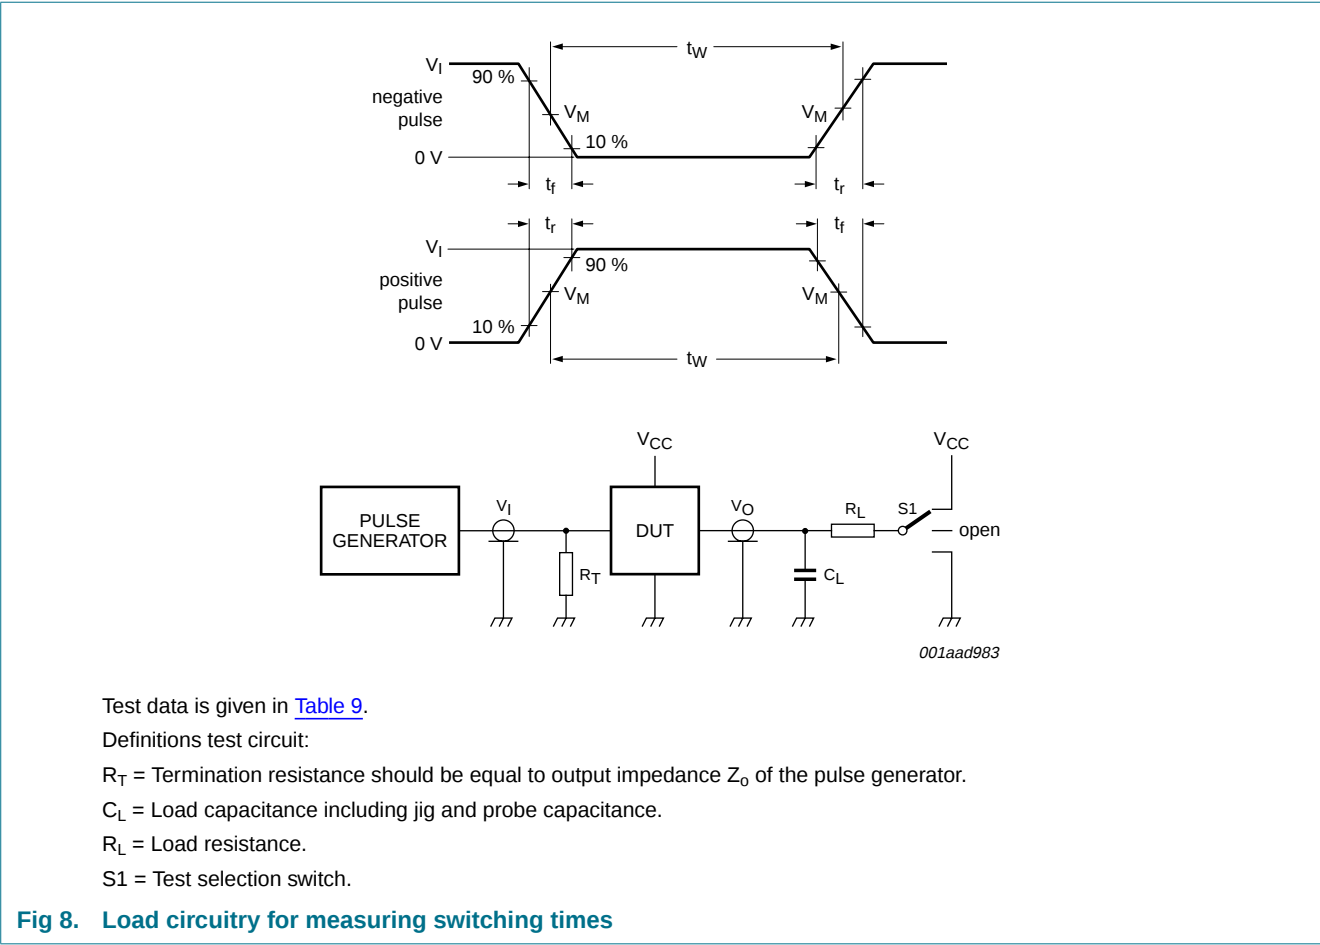

Fig 8. Load circuitry for measuring switching times
*GND = 0 V; for load circuit see Figure 8.*
**Table 7. Dynamic characteristics ...continued**GND = 0 V; for load circuit see Figure 8.